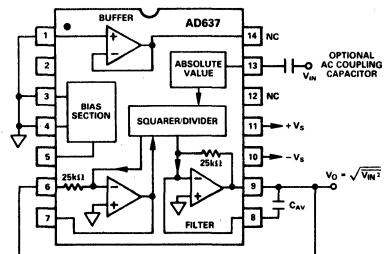

Figure 2. Standard RMS Connection
- 1Accuracy specified 0-7V rms dc with AD637 connected as shown in Figure 2.
The AD637 is simple to connect for a majority of rms measurements. In the standard rms connection shown in Figure 2, only a single external capacitor is required to set the averaging time constant. In this configuration, the AD637 will compute the true rms of any input signal. An averaging error, the magnitude of which will be dependent on the value of the averaging capacitor, will be present at low frequencies. For example, if the filter capacitor  $C_{AV}$ , is 4 $\mu$ F this error will be 0.1% at 10Hz and increases to 1% at 3Hz. If it is desired to measure only ac signals the
AD637 can be ac coupled through the addition of a nonpolar capacitor in series with the input as shown in Figure 2.